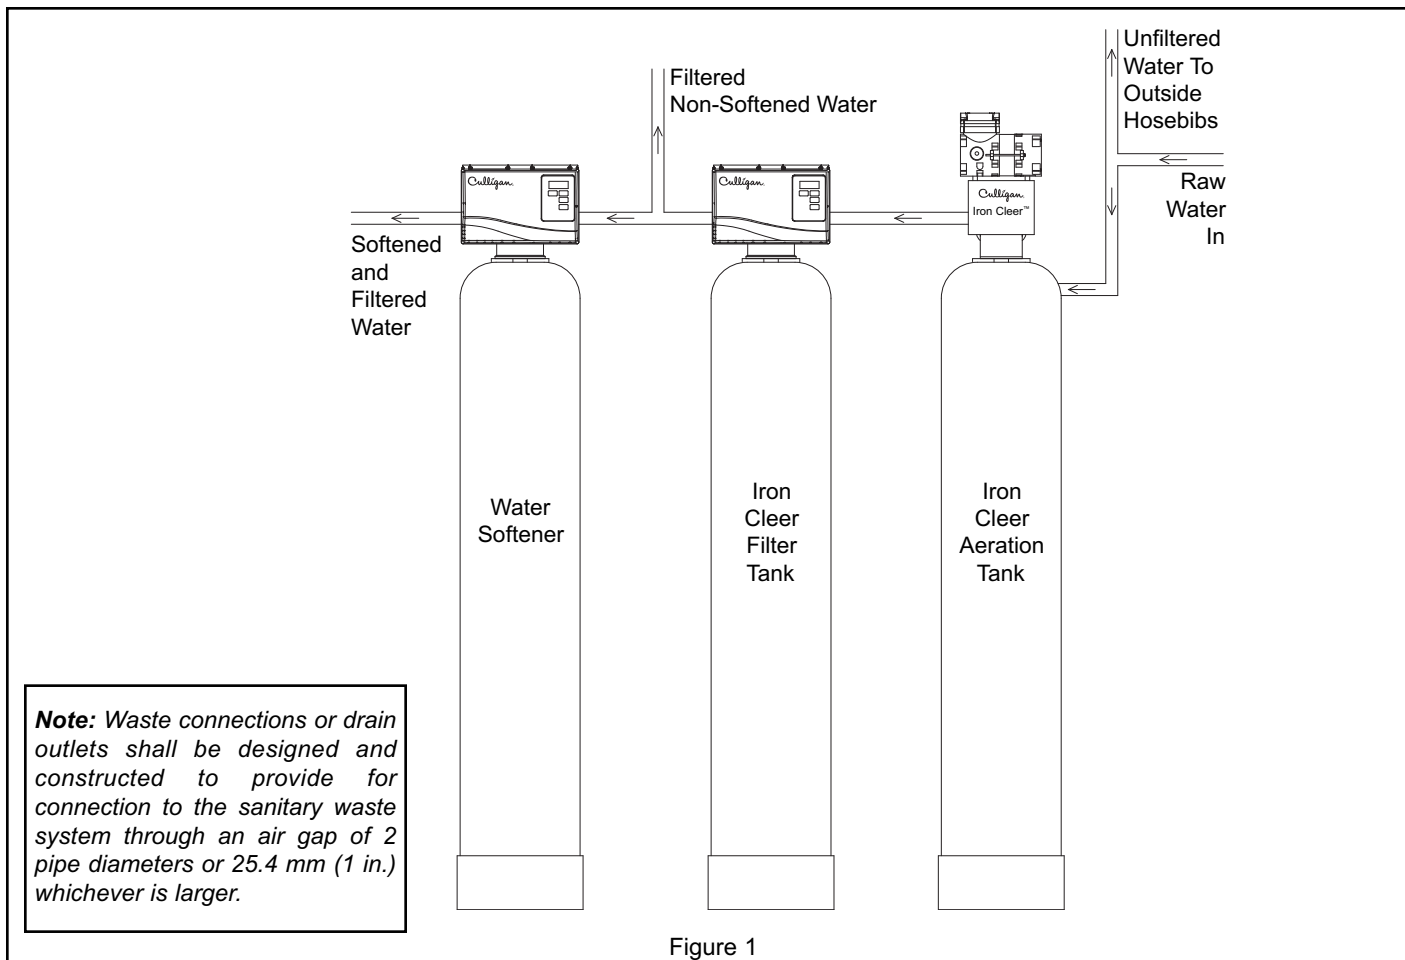

Figure 1
- ___ **Equipment Location:** See Figure 1.
- ___ **Location of Aeration and Filter Tank:** See Figure 1. These two tanks should be installed after the pressure tank and as close to each other as practical. If you want to filter outside hosebibs, be sure the filter system is properly sized to handle the flow rates required for extended periods of time, in addition to the normal household demand.
Refer to figure 1.